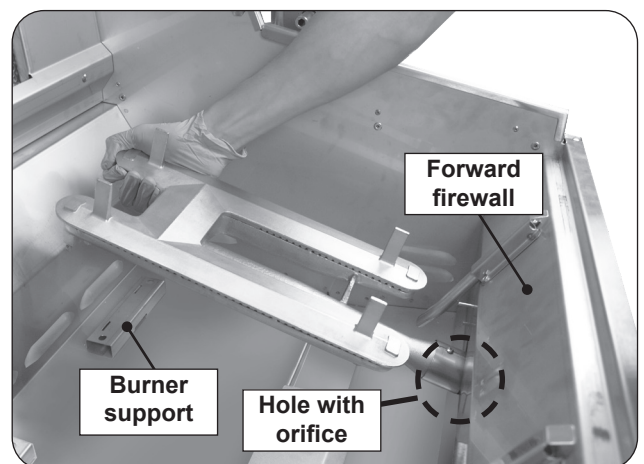

Fig. 46-2 Remove burners
3. Carefully lift the burner from the burner support and out from the hole in the forward fire wall. See Fig. 46-2.